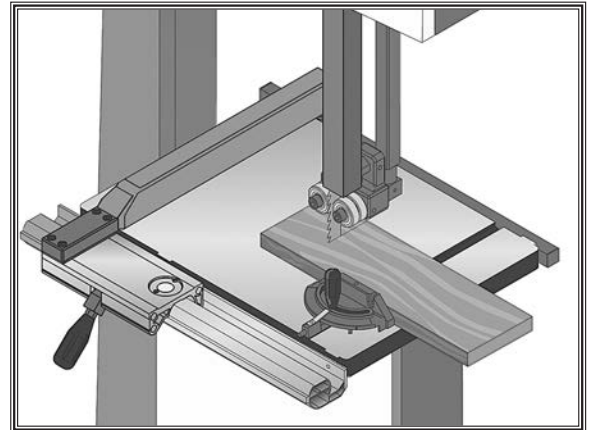

Figure 41. Example of a crosscutting operation with the miter gauge.
5. After all safety precautions have been met, turn bandsaw **ON** and wait for it to come to full speed. Slowly feed workpiece into blade until blade is all the way through workpiece. **Figure 41** shows an example of a crosscutting operation.